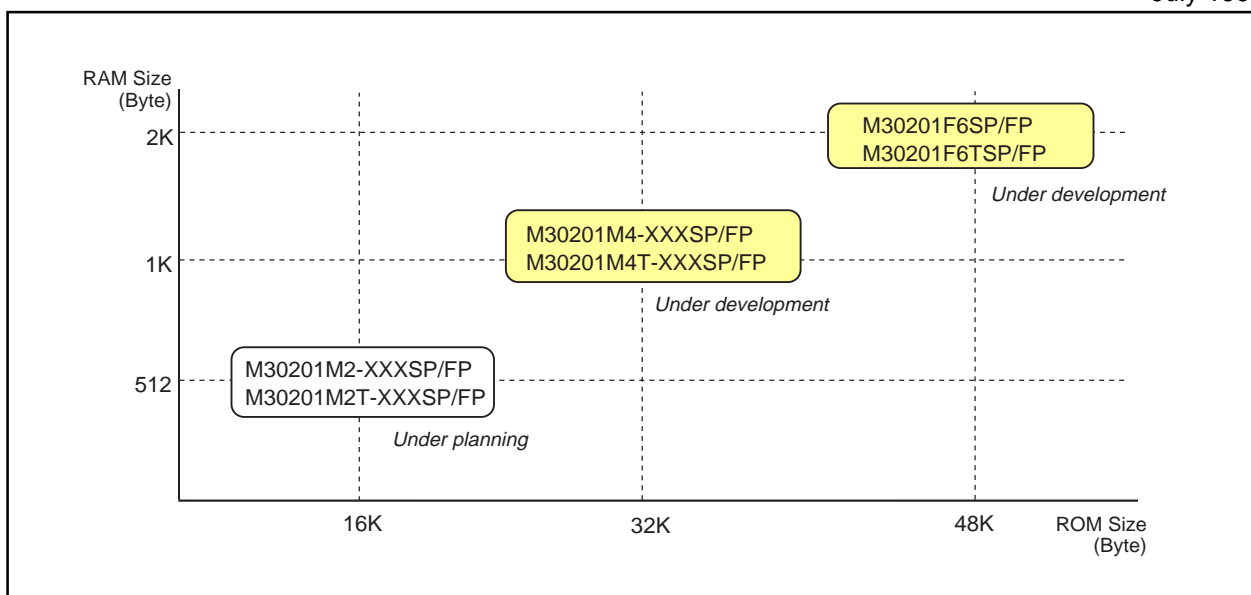

Figure 4. ROM expansion
- Memory capacity ROM/RAM (See figure 4. ROM expansion.)
RAM	(See figure 4. ROM expansion.)